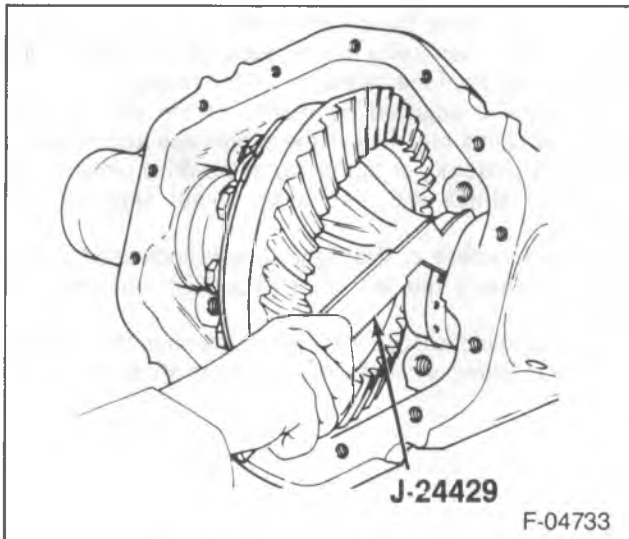

Figure 21—Adjusting the Nut
- The bearing cups (22) to the differential bearings in their original locations.
- Bearing shims (21).
- Adjusting nut (17).
- Bearing caps (19) and bolts (20) in their original positions.
- Turn the adjusting nut until the nut contacts the shim. Then tighten the nut three additional slots (figure 21).